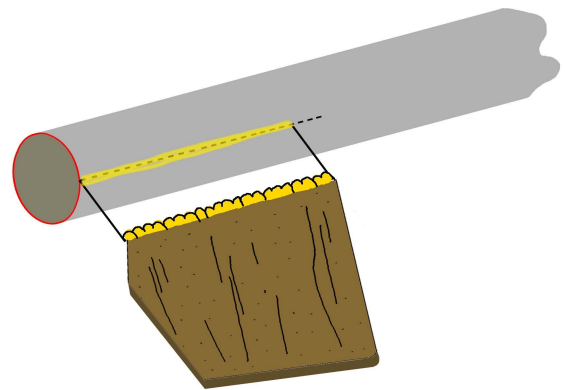

Figure 11
- **Step 17** Similar to the method used in Step 16, apply a bead of full-strength glue to the root edge of a sustainer fin, and to the sustainer body tube along one of the alignment lines. As shown in Fig. 11, press the fin against the tube, with the trailing edge touching the tube edge, and hold the fin in place for about 12 seconds before releasing. Use a moist, soft-bristled hobby brush to smooth out the glue that squeezes out from the joint and to form the initial fillet. Slide two sustainer fin alignment guides over the tube, and adjust the fin gently to fit into one of the slots. Separate the guides about 2" apart, and allow the fin 20 minutes to dry before removing them. Repeat this sequence for each of the remaining three sustainer fins. Finally,